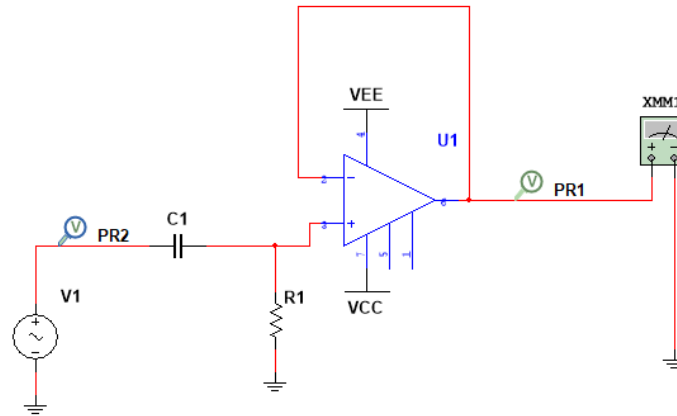

Fig 1.7: Op-Amp as AC voltage follower
2. The circuit is setup as shown in figure 1.7. The supply voltage ($\pm V_{CC}$) is set at $\pm 15V$. The input to the circuit is $1V_{(p-p)}$ AC supply.